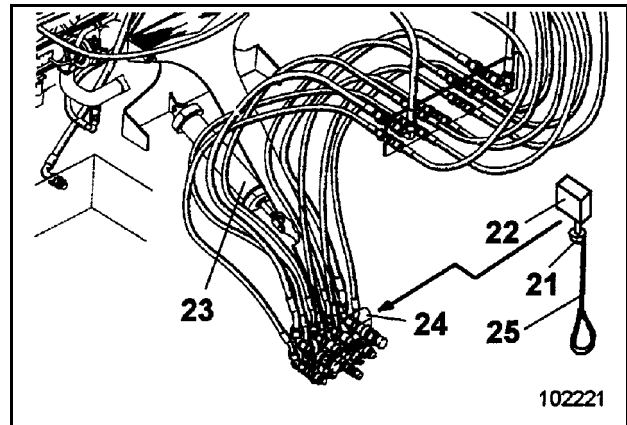

Fig. 2-75:
Draw out control knob (21, Fig. 2-75:) of valve (22) with rope (25). The service station is brought down to the lower position. Turn knob (21) by 90° and engage.